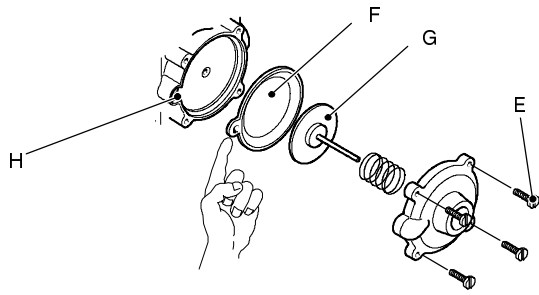

Fig. 52
- 3 Unscrew the four screws E (see Fig. 52) open the hydraulic operator and remove the membrane F.
**When assembling the membrane, ensure that its concave side faces towards the actuator plate G and the reference indicated aligns with the seat H (see Fig. 52).**